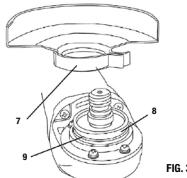

FIG. 3
- Remove the disc flange (4). It will simply pull off the spindle (5).
- Slide the guard clamp (7) over the spindle housing (8) until the detents mate with the groove (9) in the spindle housing (Fig. 3).